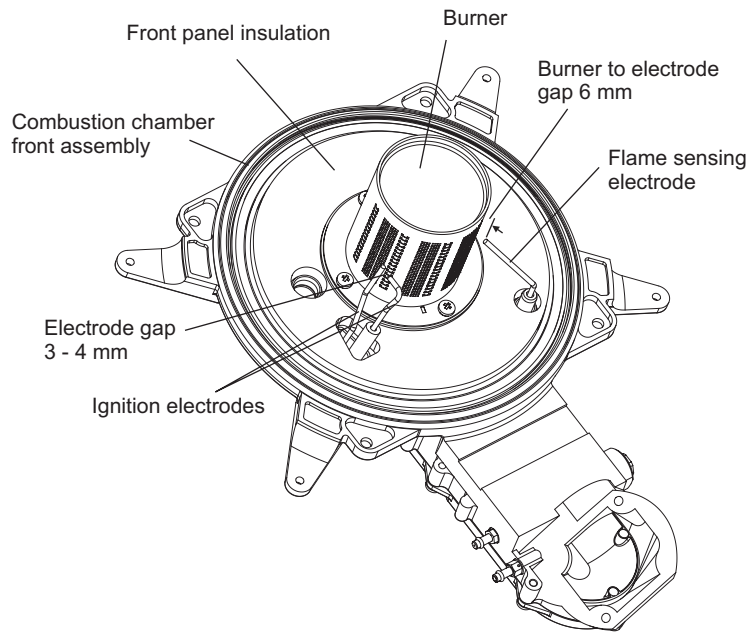

Fig. 6.2
6. Remove the four screws securing the burner (see Fig. 6.2) and remove the burner. Clean the burner with a soft brush and check that the flame ports are clear. Blockages may be removed with a stiffer brush. Tap the burner, open end down, to remove any deposits from inside.
8. Check the spark gap, positioning and height of the electrodes, see Fig. 6.2.
5. Place the front case panel in position and secure in position with the four screws previously removed, see Fig. 6.2.
7.4 MAIN BURNER - Fig. 6.2